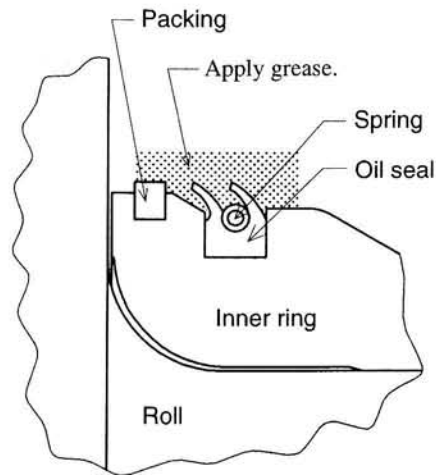

Fig. 10 Oil Seal Installation
In the installation, the cut should be at a 90° position from the split in the inner ring, as with the packing (see Fig. 10).
- 6) Apply grease to the circumferences of the packing and seal (shaded area in Fig. 10).